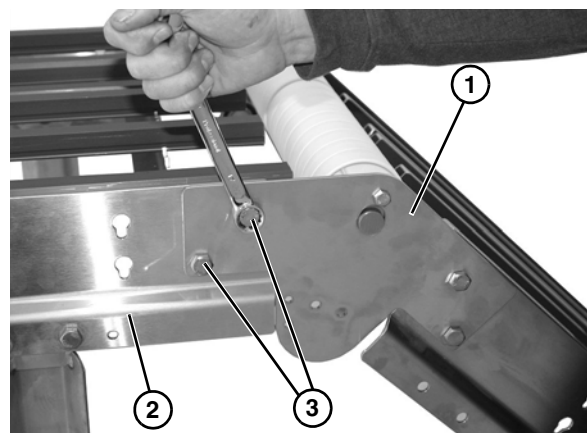

Figure 5
1. Attach upper knuckle (Figure 5, item 1) to frame (Figure 5, item 2) by using two cap screws (Figure 5, item 3) on each side of upper knuckle assembly.